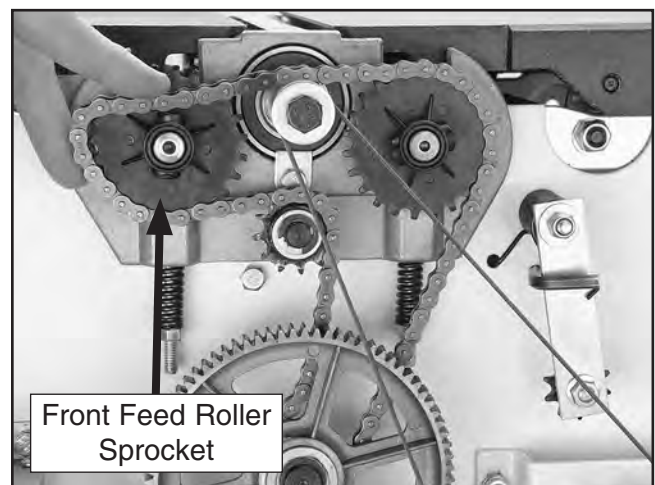

Figure 77. Removing feed roller chain.
7. While rotating the lower sprocket wheel clockwise, walk the chain off of the front feed roller sprocket (**Figure 77**), then remove the chain from both feed roller sprockets.